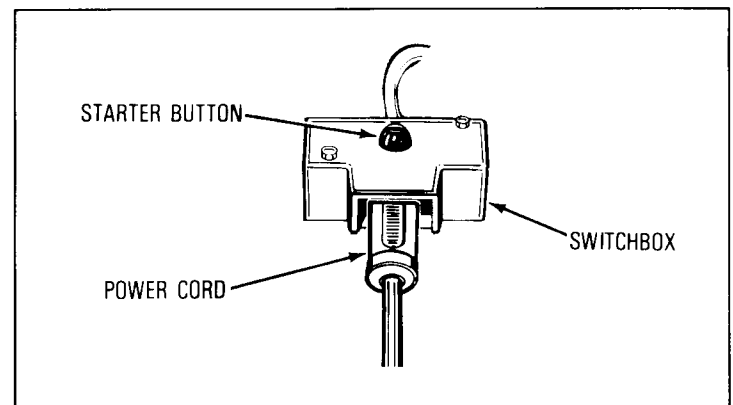

Figure 4
- C. Connect power cord to switchbox (see Figure 4).
- E. Push starter button (see Figure 4) to crank engine.